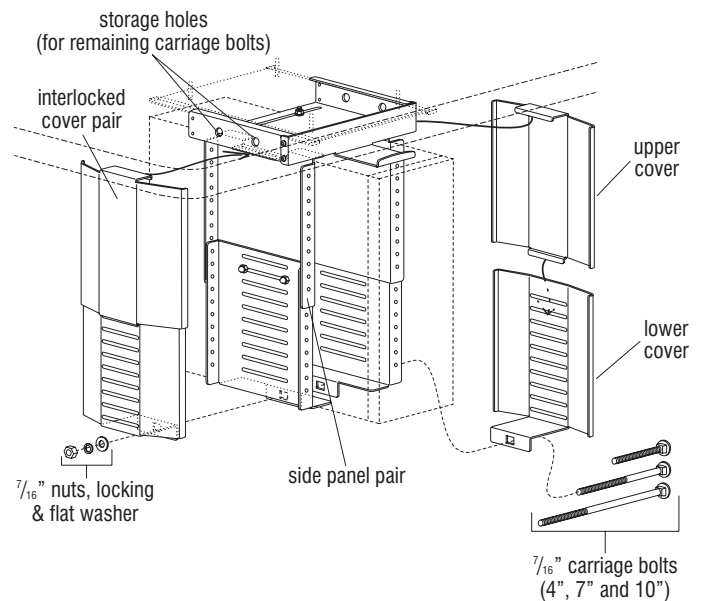

Figure 2
3. Interlock each pair of upper and lower covers to match the height of the side panel pairs. Hook the upper tab of the cover pair into the slot at the top of the side panel pair. Align the hole at the bottom of the cover pair with the hole of the side panel pair (Figure 2).
4. Reinstall the $\frac{7}{16}$ " carriage bolt (4", 7" or 10") through the bottom holes of all covers and side panels. Place the washer, lock washer and $\frac{7}{16}$ " nut onto the bolt and tighten to secure. Take the remaining two carriage bolts and slide them into the storage holes in the side of the slotted bracket (Figure 2).